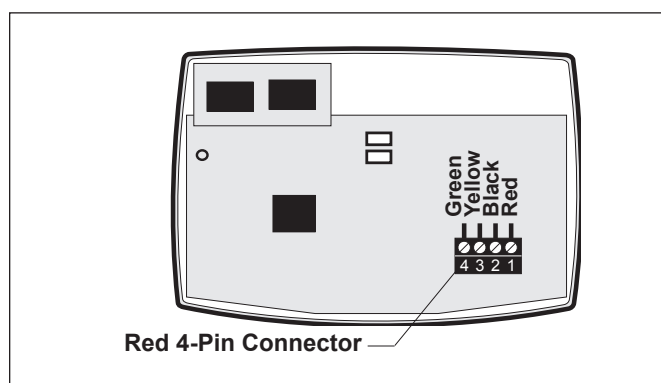

Figure 24. All Button Control Panel PCB
3. Drill 1/4" holes at the three (3) mounting screw marks and insert the plastic anchors. Drill a 1 1/4" (min.) to 2" (max.) hole for cable access.
6. Remove the red, 4-pin terminal bar from the control panel PCB. Connect the 4 conductor cable to the red, 4-pin terminal bar (see Figure 24). Reconnect the red, 4-pin terminal bar back to the Control Panel PCB.